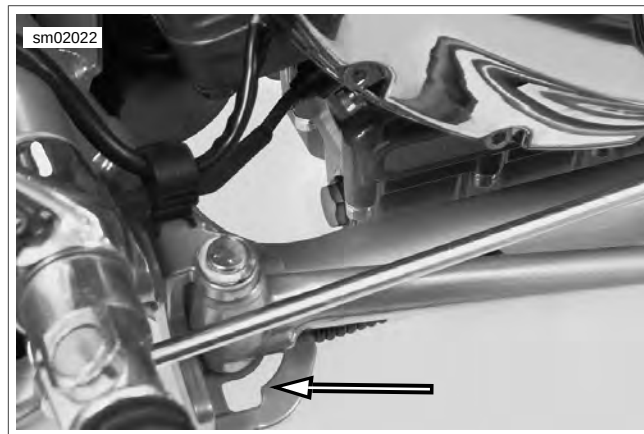

Figure 2-148. Jiffy Stand Catch and Lock Slot
2. See Figure 2-148. Inspect leg stop and lock slot in jiffy stand weldment. If covered or plugged with dirt, clean assembly.